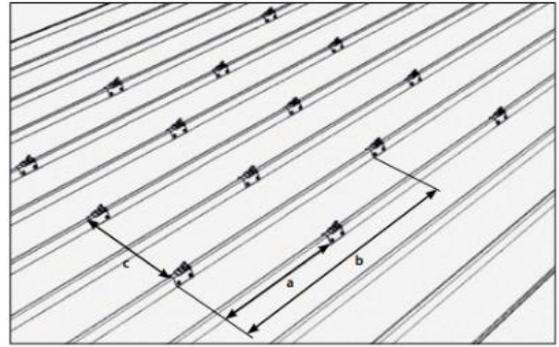

Fig 4.1.2: Screw fixing and shading distances
- VI. The fasteners (Rapid²⁺ Pro SMLs or Seam Clamps), based on the roofing sheet application, are positioned as per the installation plan. The variables **A**, **B** and **C** as per [Fig 4.1.2] need to be determined at the site before securing the FixZ Pro frames to the roof purlins.
- VII. **A** determines the spacing between the fasteners to position the FixZ rails to achieve the required tilt as per [Fig 4.1.2].